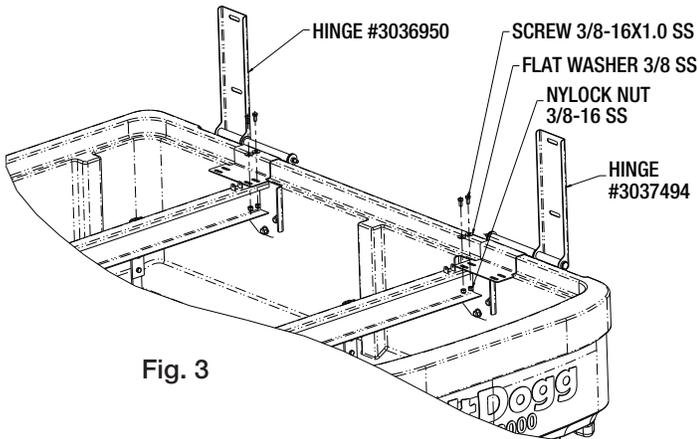
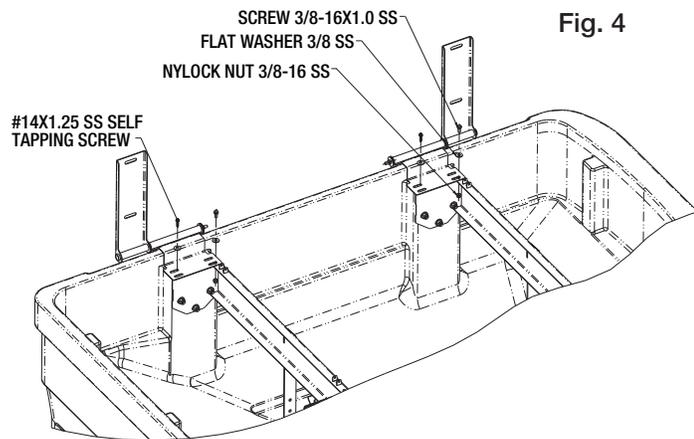

Fig. 3
Fig. 4
**3.** Assembly brackets to hoppers as shown below using holes in cross members. Older PRO2000 spreaders require drilling 3/8" clearance holes in cross members. Apply brackets on cross members and use them as templates to mark holes positions. Do not tighten nuts completely at this time. You may need to adjust brackets positions later. (Fig. 3 and Fig. 4)